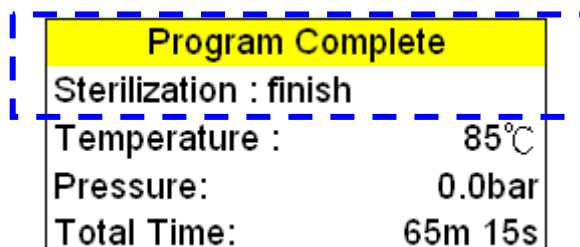

Figure 108- Program Complete
- G. On completion, the buzzer will sound and the Program Complete message is displayed as shown in Figure 108- Program Complete.